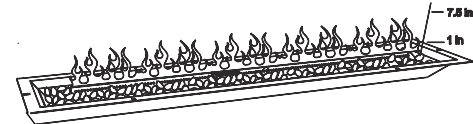

Figure 3
5. After completing the ignition, continue to turn the control knob counterclockwise to adjust the flame height to the desired condition (Fig. 3).